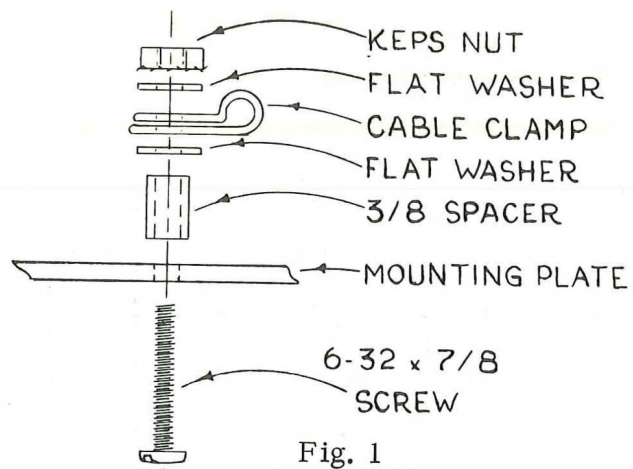

Fig. 1
- (2) white-orange                      white-black
- ( ) 7. Dress the above wires upward and mount the cable clamp, as shown in Fig. 2, step 7. Use the hardware (from kit) shown in Fig. 1.